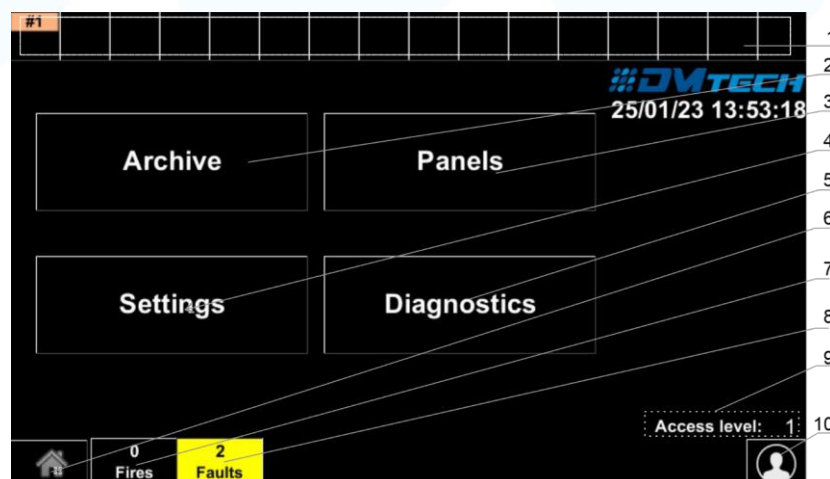

Fig. 3
5.2.2. Initial screen of the repeater - in fig. 3 shows the home screen with the characteristic information areas and function buttons.